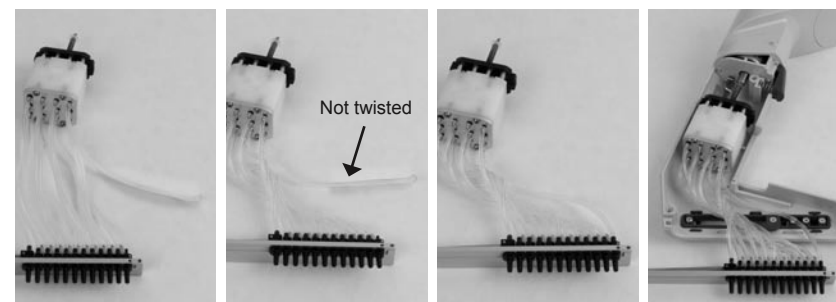

Figure F.1.4d: Rotating Manifold Assembly
4. Rotating Manifold Assembly After installing the piston/cylinder assembly, install the manifold assembly into the main housing. Make sure manifold is in closed position. To keep the tubing free from ejector contact, rotate the manifold plate and tubing one complete turn counterclockwise (see Figure F.1.4d). Spin tubing once, then reconnect tube one without twisting (it is the only tube not twisted).